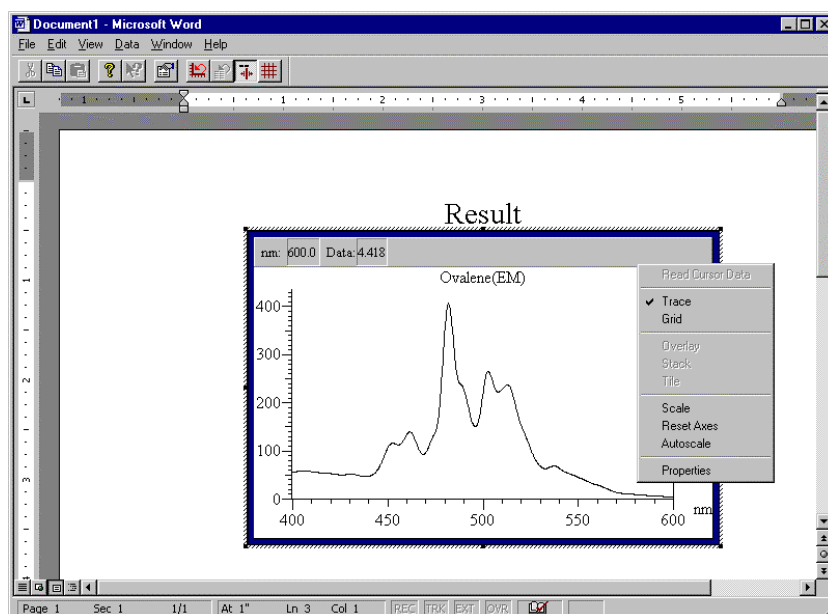

Fig. 6-30
6.14 Pasting of Spectra to Microsoft(R) Word
In report preparation, spectra can be pasted as they are. Make the spectral data active (click the relevant spectrum) and then select the Copy command from the Edit menu. Now open the Microsoft(R) Word and select the Paste command from the Edit menu. The data can be pasted to a Microsoft(R) Word text. Peak tables and/or kinetics data can also be pasted in the same way. By double-clicking the pasted spectrum shown in Fig. 6-30, functions such as scale change and calculation result display are applicable. The spectrum can be selected as a meta-file by the Paste Special (S) command with a form chosen. In the same way, peak tables and/or kinetics data can also be pasted.